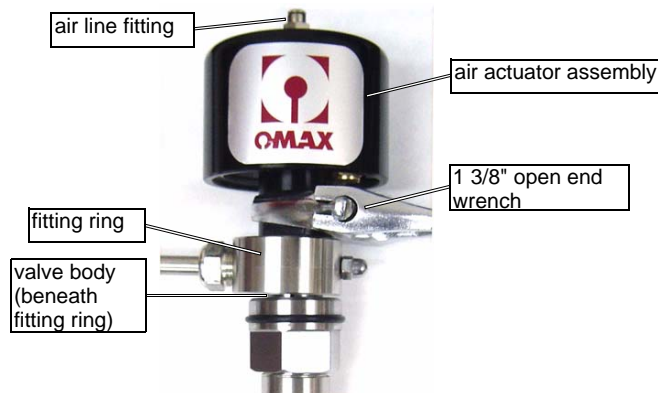

Figure 6-90: Removing the Air Actuator Assembly
2. Remove the air line from the **air line fitting** on top of the **air actuator assembly** (Figure 6-90) and move it out of the way.
5. Reinstall the **air actuator assembly**. Use the 1 1/8" crows foot to torque it at 250 in-lbs (28.2 N-m). Refer to Figure 6-90.